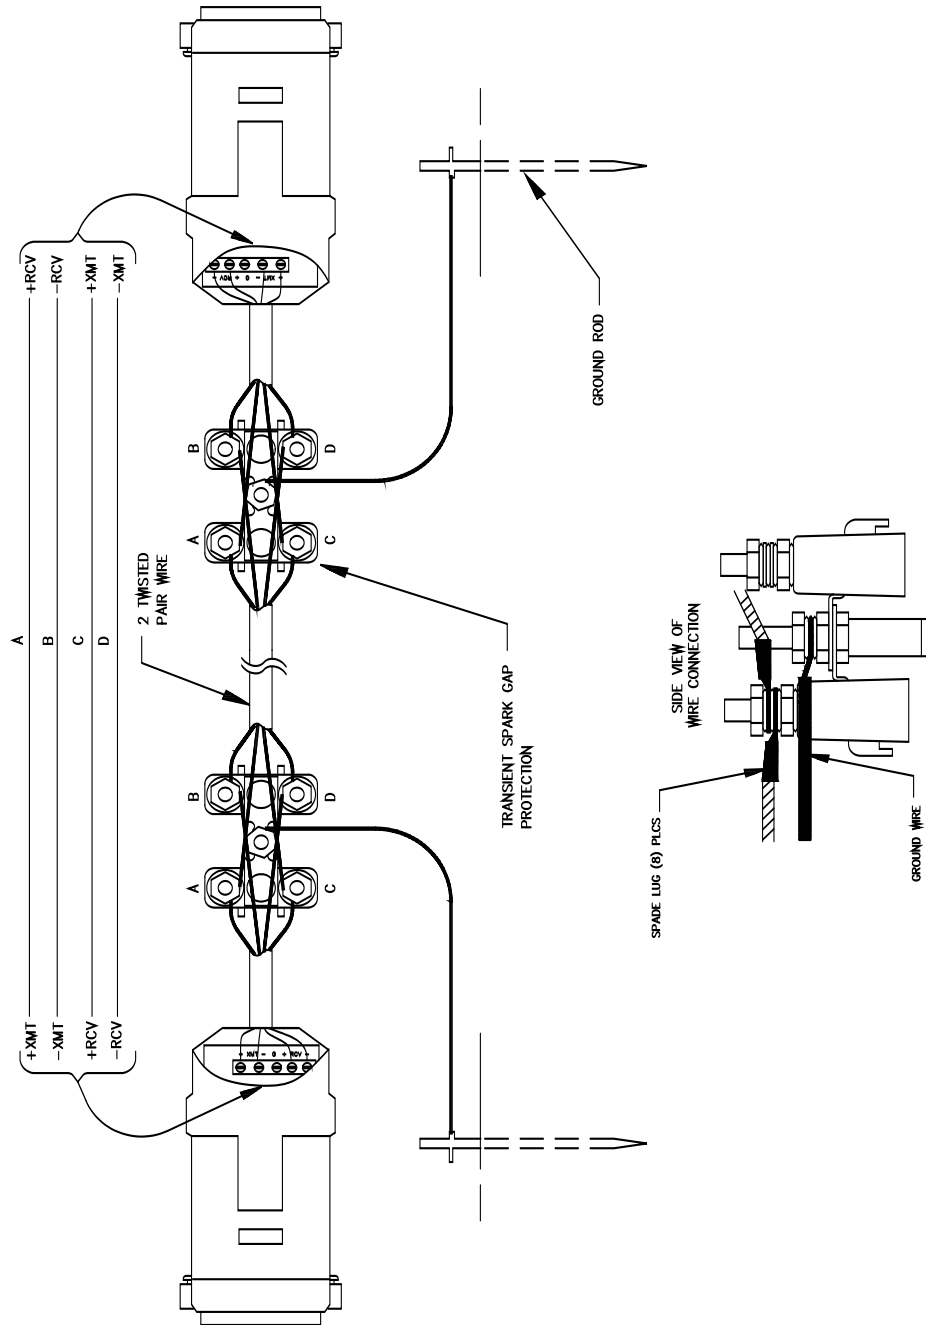

FIGURE 4-2. Installation of Spark Gap Protection
FIGURE 4-2 shows a typical setup of the RAD modems. Installation is as follows:
3. Wiring connections are made as shown in FIGURE 4-2. Note wires labelled A and B are one twisted pair of the cable. Wires labelled C and D are the other twisted pair.
4. Transients induced on the communication line may damage any electronics connected at either end of the line. To decrease the chances for damage, spark gaps should be installed as shown in FIGURE 4-2. The transient protection shown may be purchased from Campbell Scientific (FIGURE 4-2). Spark gap wiring is straight through such that pin to pin continuity exists between the two modems. If the modems are installed entirely within a building, the transient spark gap protection is probably not needed.